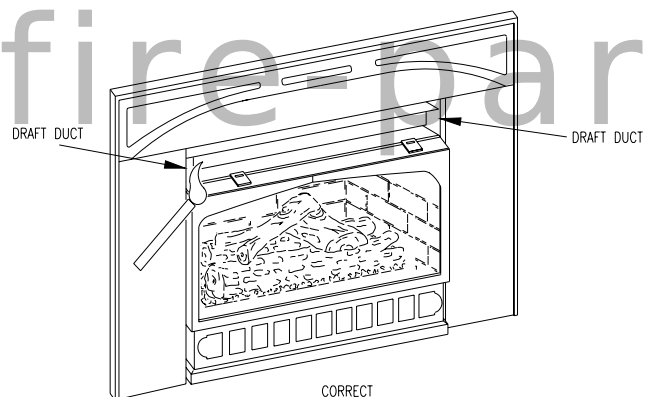

Figure 25a
5. After five to ten minutes, insert a match inside a draft duct opening and ensure that the flame wisps and smoke are drawn into the duct at the front corner (see Figures 25a & b).